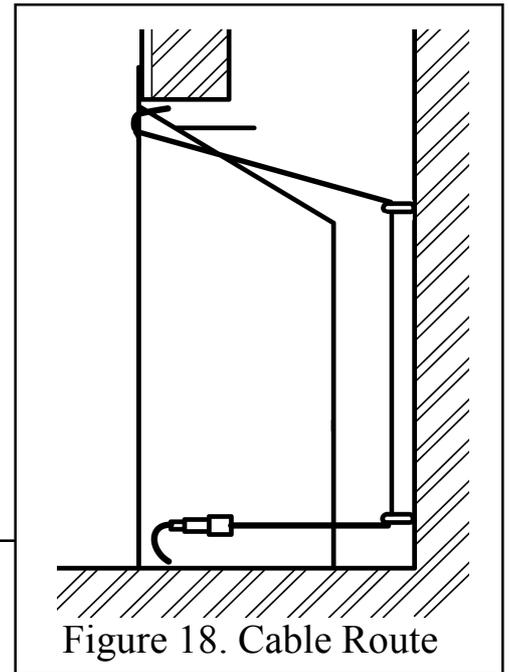

Figure 18. Cable Route
6. Thread the cables through the eyebolts. Return the cables through the holes near the bottom of the hotbox back panel, (**For precast or clay block flue systems return the cables through the slotted holes in the side of the hotbox**), and through the “V” shaped brackets near the bottom front sides of the hotbox - See figure 18.